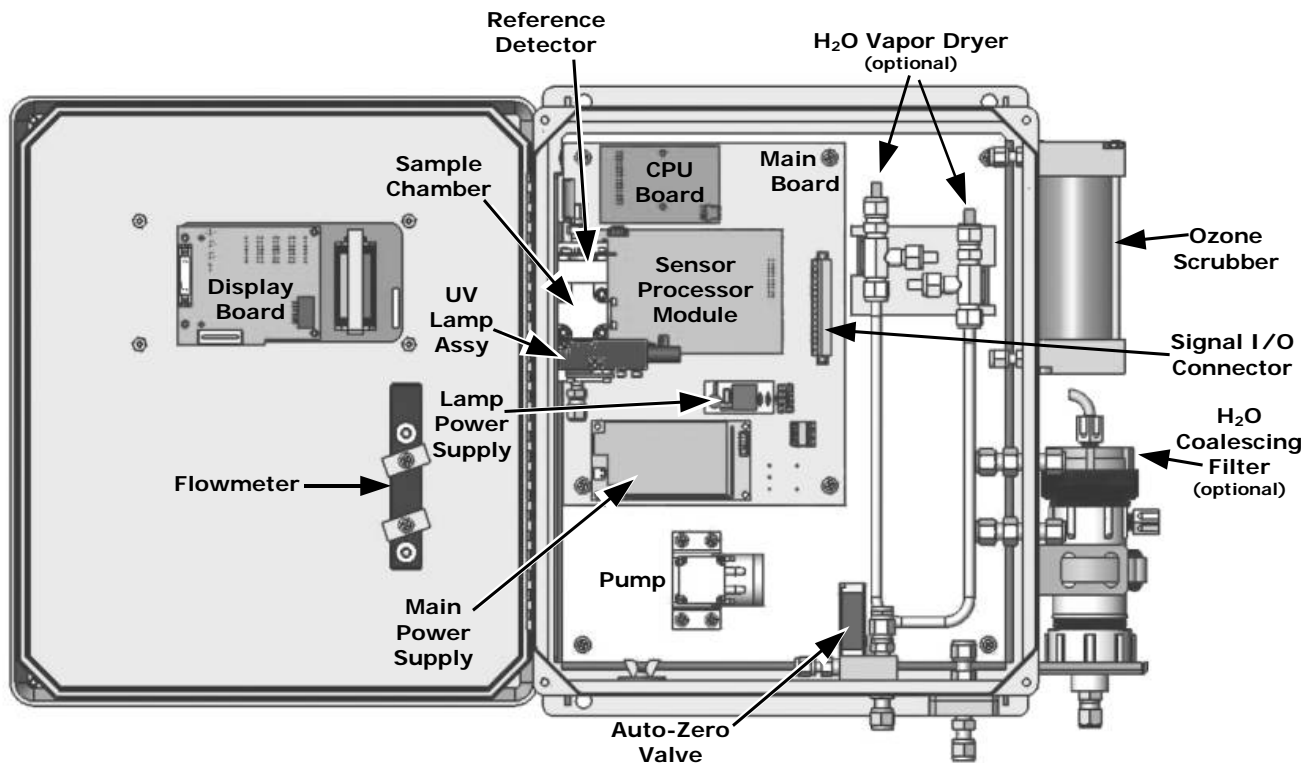

Figure 3-2 460M Layout
4. Check the connectors of the various internal wiring harnesses and pneumatic hoses to make sure they are firmly and properly seated (see Figure 3-2).